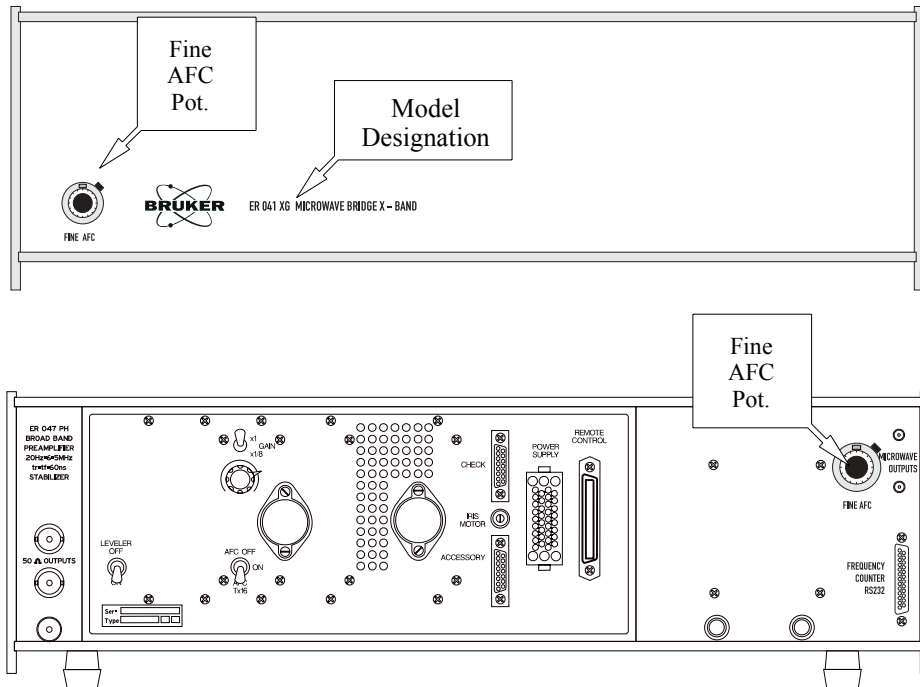

Figure 7-21 Two possible locations for the Fine AFC potentiometer.
1. **Set the FINE AFC potentiometer to zero.** The potentiometer for the AFC can appear in two different locations on the bridge depending on when your bridge was manufactured. (See Figure 7-21.)